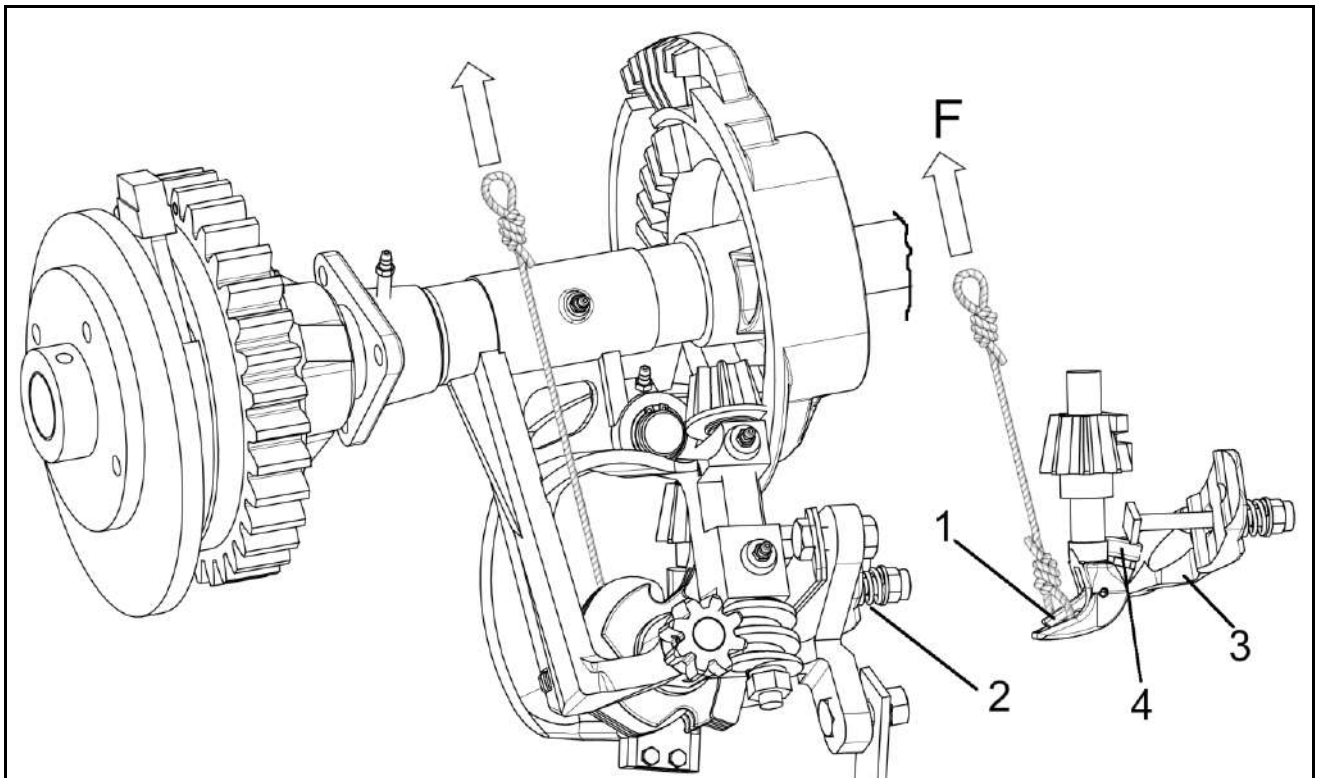

Fig. 7.18
With the knotter in the rest position, the billhook tongue (ref. 1, Fig. 7.18) must open if subjected to a force between 5 and 10 kg. If necessary, tighten or loosen the spring (ref. 2, Fig. 7.18).